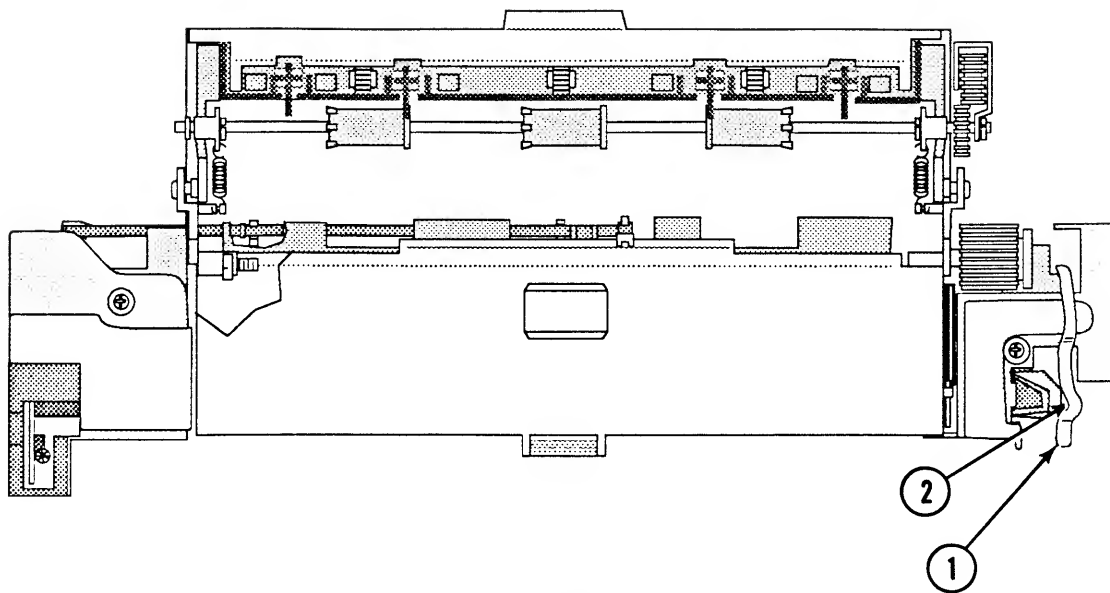

FIGURE 20
9. Replace the drive release cam (Figure 20, #1) and spring.
10. Replace the drive release cam E-ring (Figure 20, #2).